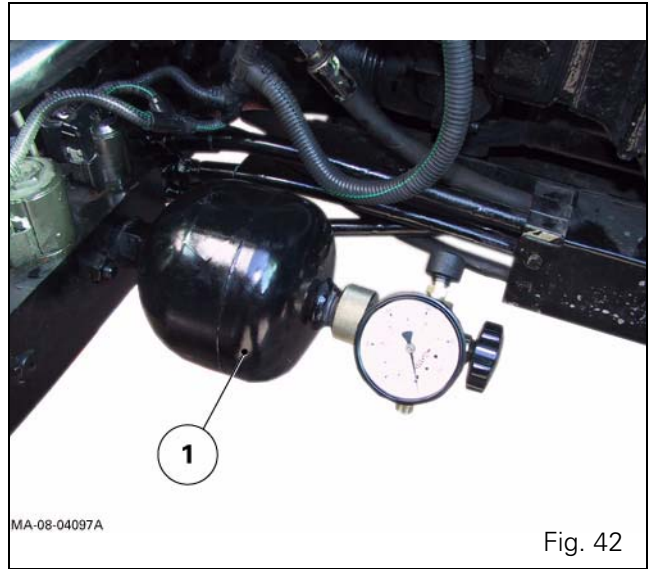
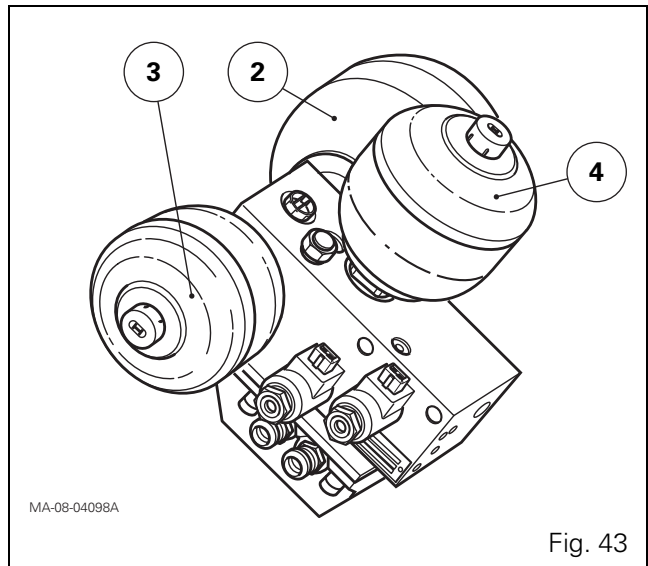

Fig. 42
Fig. 43
17. Check the pressure in the accumulator (Fig. 42, Fig. 43).